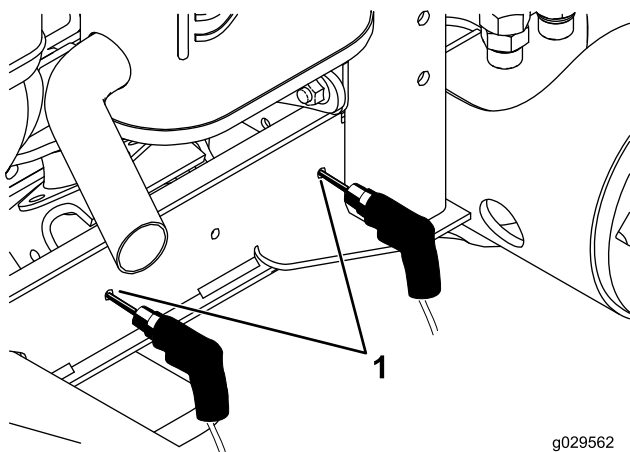

Figure 20
10. At the locations that you marked in step 8, drill 2 holes (0.281-inch diameter) through the frame channel (Figure 20).